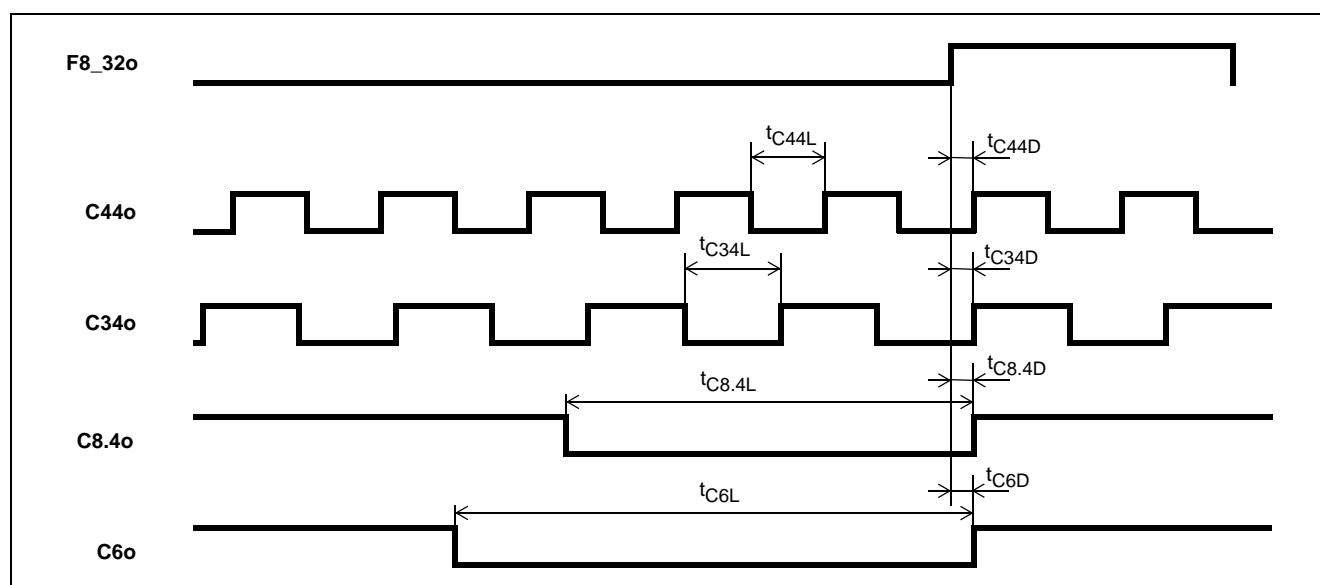

**Figure 27 - SDH Output Timing Referenced to F8/F32o**
**AC Electrical Characteristics\* - SDH output timing (see Figure 27).**